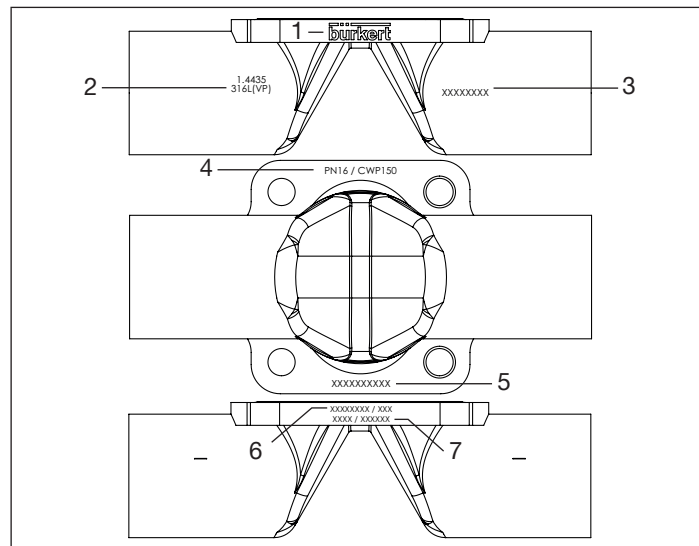

Fig. 10: Labelling on tube valve body
- The self-draining angle ( $\alpha$ ) depends on the valve body size and the inner diameter of the port connection (DN).
- The self-draining angle is specified as a value on forged steel valve bodies (VS) and tube valve bodies (VP) (see “Fig. 8” and “Fig. 10”).